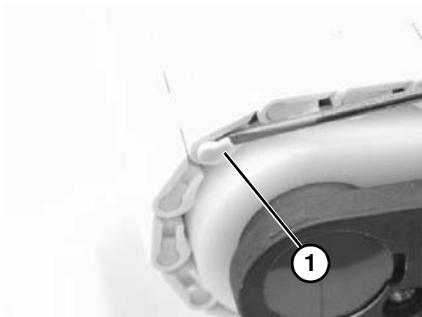

Figure 43
1. Choose one link on the idler end of chain to remove endcaps. With a 3/32" (2.4 mm) flat blade screwdriver, pry under tab of end caps (**Figure 43, item 1**) and remove end cap. Repeat for opposite side of conveyor.